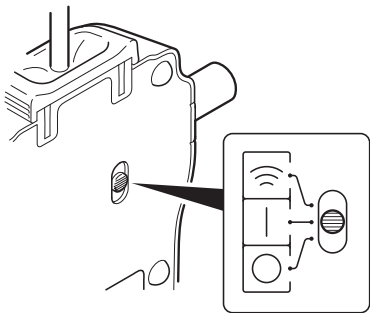

Figure 75 – Foot Pedal Power ON
3. Slide the WIRELESS/ON/OFF power switch on the foot pedal to the ON position (Figure 75).